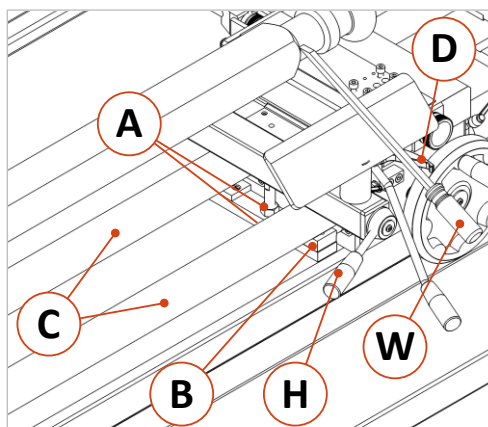

Figure 12: Mounting the tool rest
- Mount the tool rest by unscrewing the nuts (A) shown in ⇨ Figure 12. Then turn the plate (B) with the inserts as shown in the figure.
- The plate (B) must be aligned so that the inserts are positioned exactly under the two guide rods (C).
- Now fasten the plate (B) to the two guide rods (C) with the nuts (A).
- Use the handle (H) to fix the tool rest in the desired position on the guide rods.
- Adjust the height with the handle (D) so that the cutting edge of the tool (W) is correctly positioned in relation to the workpiece resp. axis centre (see ⇨ Figures below).